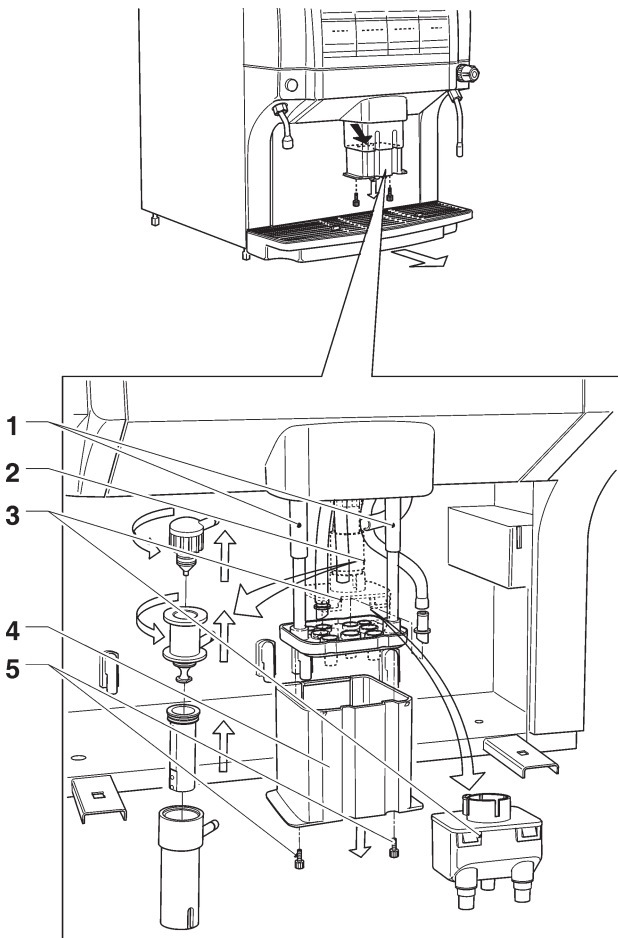

Fig. 28
- disassemble the dividing nozzle and the milker completely (see fig. 28);